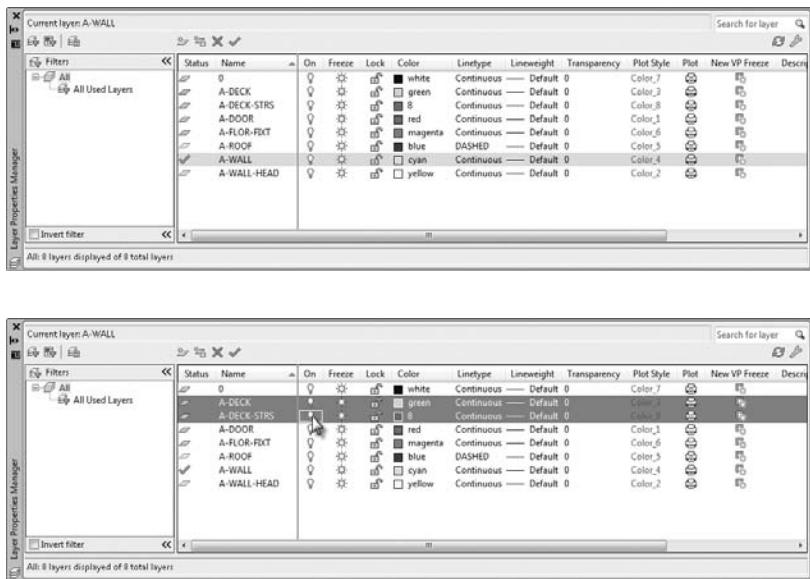

FIGURE 6.31 The layers, now listed alphabetically (top); and turning off the selected layers (bottom)
5. Notice that layer 0 is still first in the list and that the other layers have been reorganized alphabetically (see the top of Figure 6.31).
- Click one of the light bulbs of the selected layers (see the bottom of Figure 6.31).